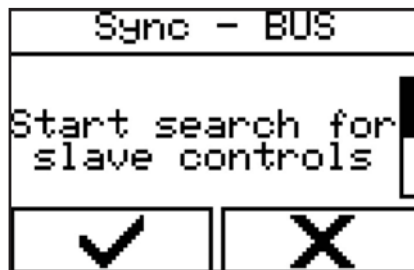

Figure 114 - Selecting a menu
1. Call up the menu via 'Control' → 'Sync-BUS settings' → 'Start search for slave controls' (Figure 114).